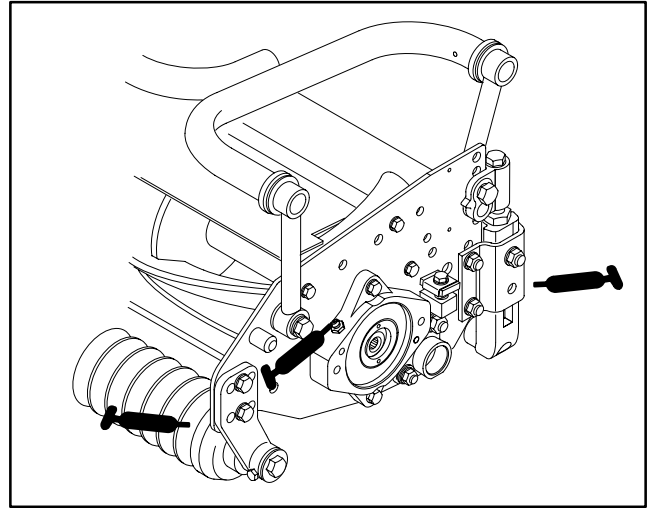

Figure 32
Each cutting unit has (6) grease fittings (Fig. 32) that must be lubricated regularly with No. 2 General Purpose Lithium Base Grease.